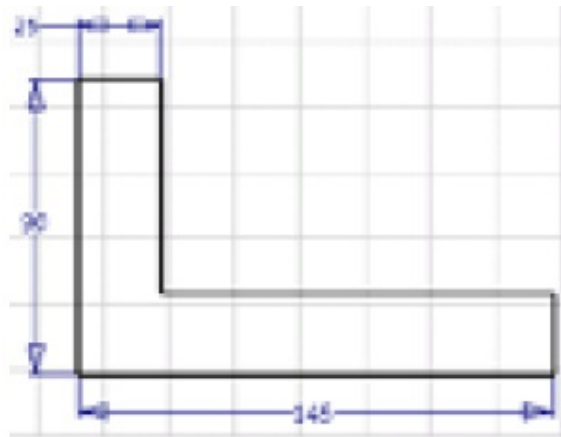

Figure 5-89 Sketch for the base feature
- a. Create the base feature on the YZ plane by defining a new sketch plane on it, refer to Figures 5-89 and 5-90.
2. Add dimensions to the sketch. The sketch after adding the dimensions is shown in Figure 5-89.